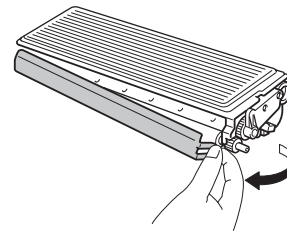

Fig. 5-11
- (5) Remove the protective cover. (Fig.5-11)